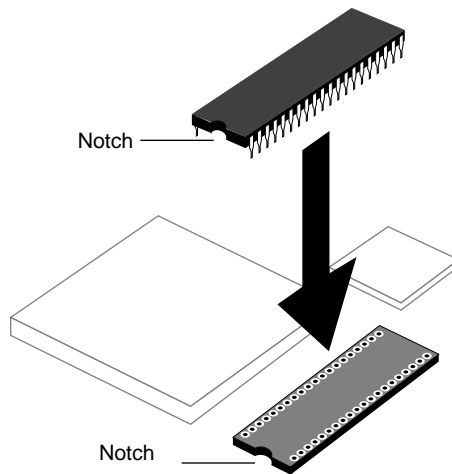

Figure 9-9 Lining Up the PROM Chip
- Grasp the new PROM chip. Orient it above the socket on the system board so the end with the semicircular notch lines up with the notch in the socket. See Figure 9-9.